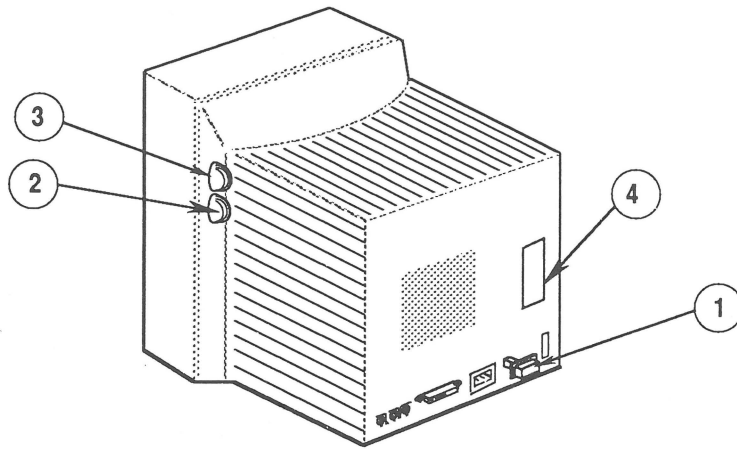
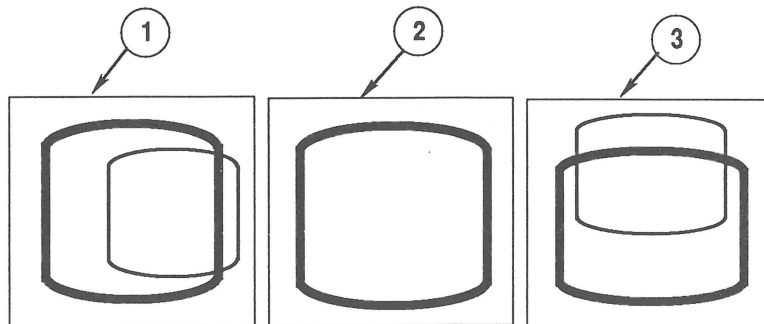

FIGURE 1
FIGURE 2
The power switch (Figure 1, #1), contrast control (Figure 1, #2), and brightness control (Figure 1, #3) are the only controls recommended for user access. The brightness control has a detent for midrange reference. A yellow LED at the lower-right, front corner of the bezel indicates when power to the Portrait Display is on.
Three adjustment controls are at the back of the Portrait Display, under a snap-out door (Figure 1, #4). These are not user controls, but well-meaning users may sometimes misalign them. The internationally recognized symbols shown in Figure 2 are used to identify these three external adjustment controls:
- H.CENT (horizontal centering) (Figure 2, #1)
- HEIGHT (Figure 2, #2)
- V.CENT (vertical centering) (Figure 2, #3)